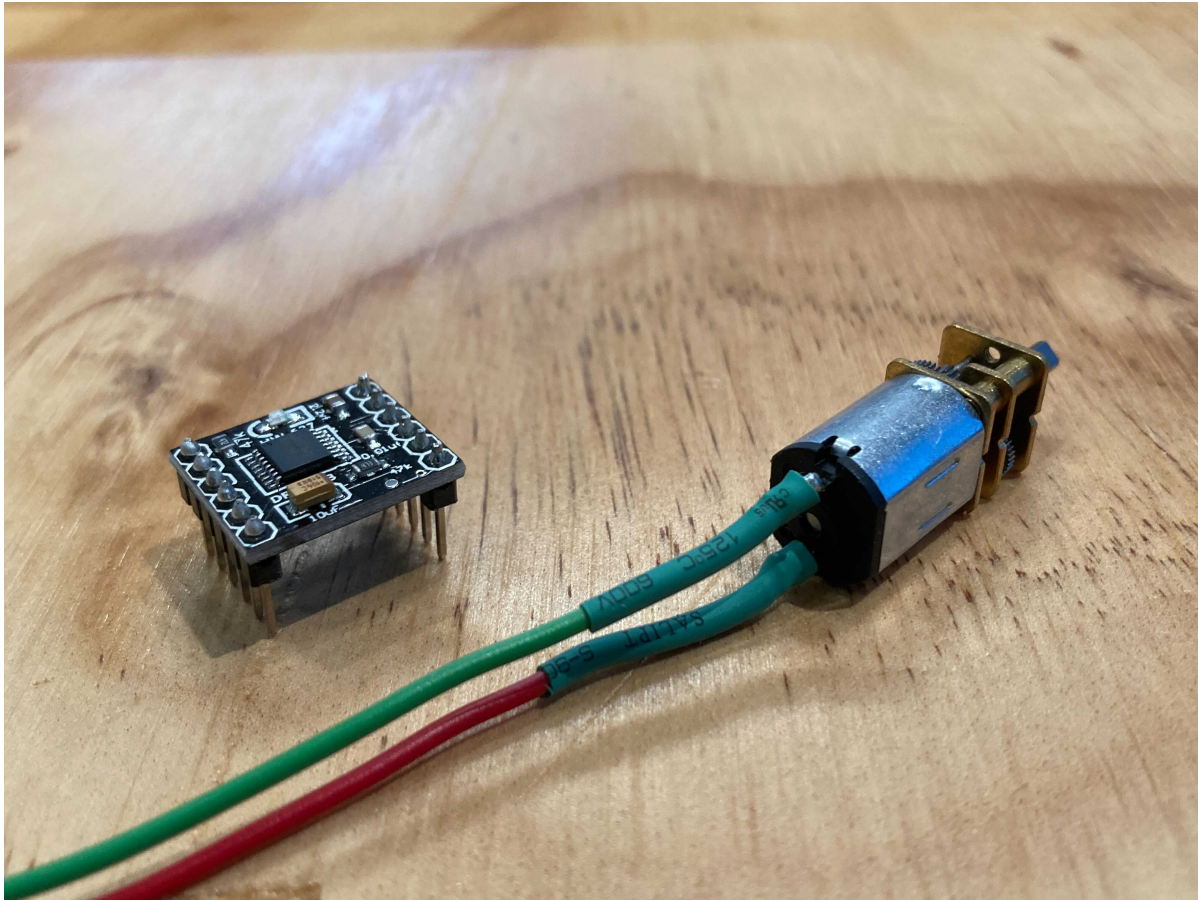

Figure 1: We will provide each group one gearmotor and one DRV8833 motor driver.
1. Only one ESP32, one motor driver, and one gear motor are allowed in your design. Figure 1 shows the motor driver and the gear motor. Alternatively, you are allowed to substitute the gear motor with the servo motor that is provided in your kit. If you decide to use the servo motor, you are not allowed to use the gear motor, hence no motor driver is needed. You are allowed to use other non-actuation components in your design, e.g. IMU. If you are not sure whether certain parts can be used for your project, consult your instructor and TA.